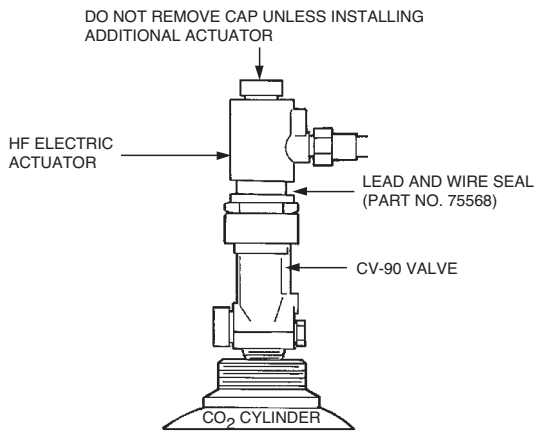

FIGURE 14
6. Thread the HF electric actuator onto top threads of cylinder valve or booster actuator as appropriate. Do not exceed 10 ft lb torque. See Figure 14.